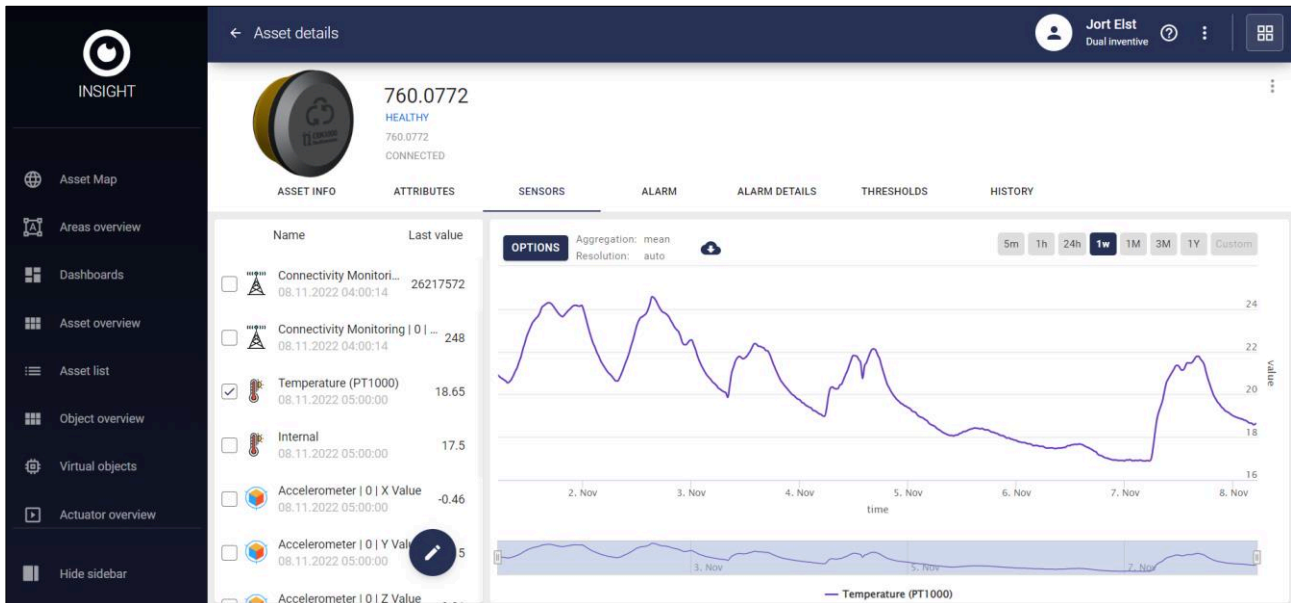

Figure 6-8: Sensors
1. Navigate to the asset details of a device and select the tab 'Sensors' (Figure 6-8).